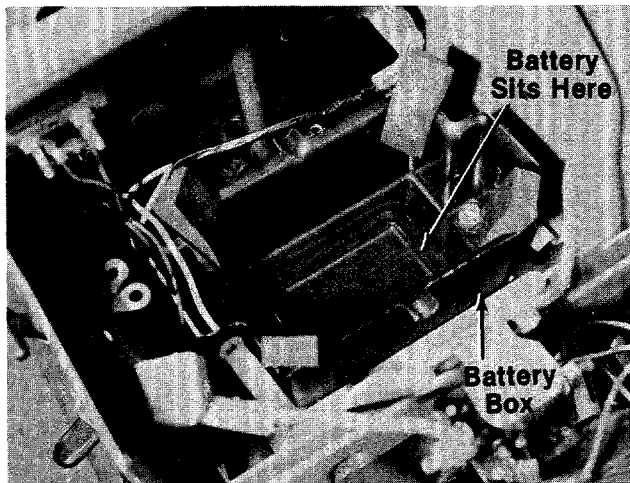

FIGURE 8.
10. Open the hood of the lawn tractor. Figure 8 shows the battery box in which the battery will be mounted.